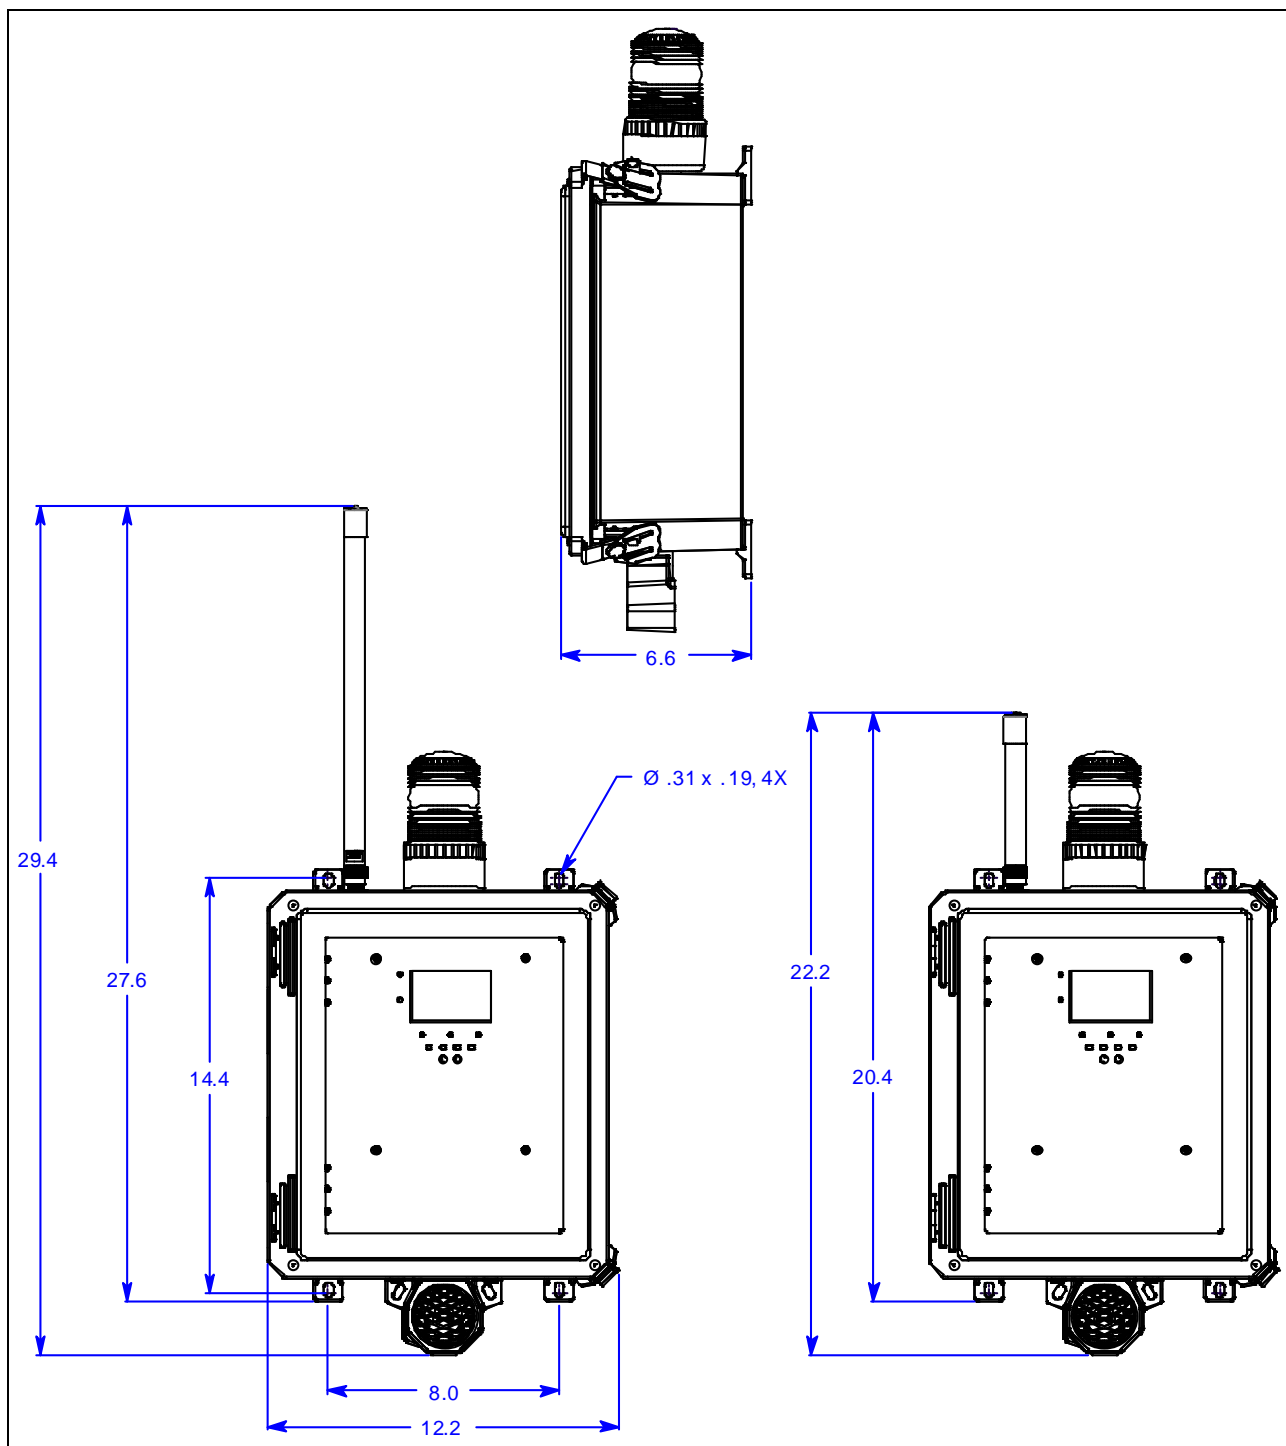

Figure 3: Outline and Mounting Dimensions
3. Prepare the selected mounting site as required to mount the AirLink 7032. It should be mounted at eye level (4 1/2 to 5 feet from the floor). Refer to Figure 3 for the outline and mounting dimensions.